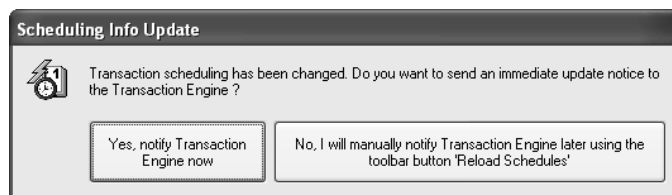

Figure L6.4 - Scheduling Info Update
- Click on **Apply**, and if your BridgeWorX engine is running you will get a warning asking if you want to notify the BridgeWorX engine with the new triggers. Select **Yes, notify Transaction Engine Now** as shown in Figure L6.4.